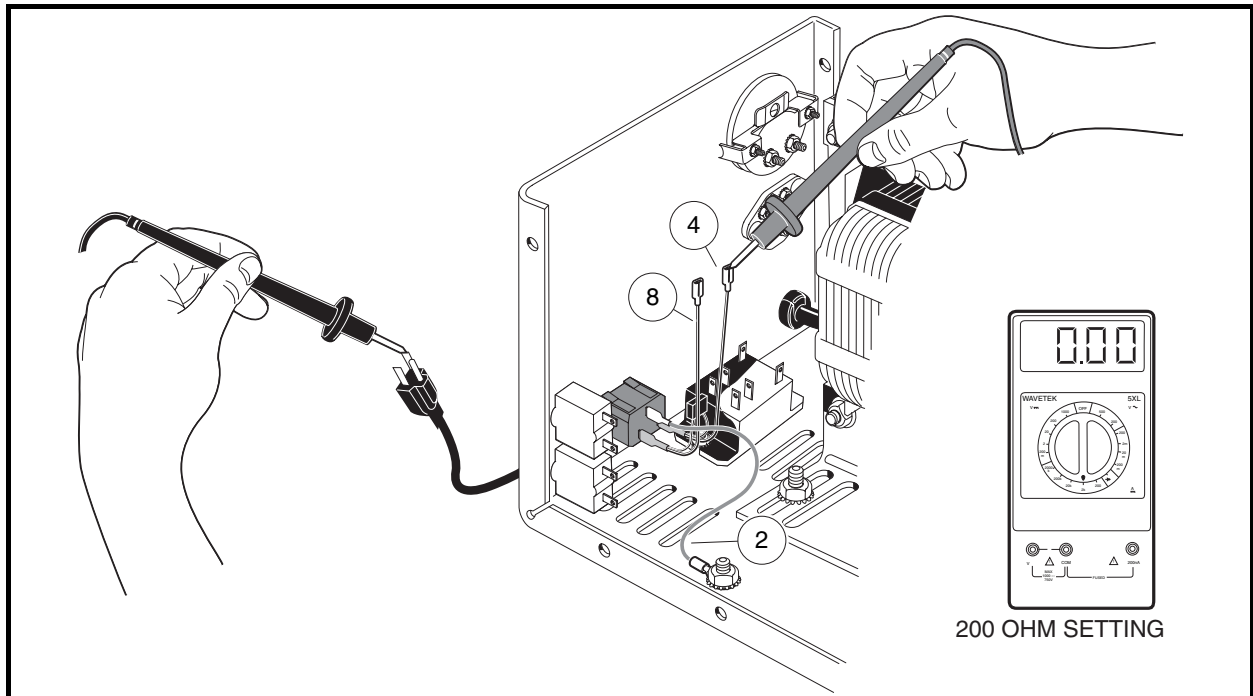

Figure 5-16 AC Plug and AC Charger Receptacle Continuity Test
3. Disconnect the green/yellow wire (2) from charger case and position it so it does not touch any metal part of the charger (**Figure 5-16, Page 5-23**).
6. Using a multimeter set for 200 ohms, place the red (+) probe on the terminal at the end of the black wire removed from relay terminal 4 (4). Test for continuity on each of the flat blades and on the round pin of the AC plug. The tester should indicate continuity on one flat blade only. If any other reading is obtained, the AC cord or AC charger receptacle (on the front panel) may be damaged. See AC Cord on page 5-22. See also AC Charger Receptacle on page 5-23.
7. Place the red (+) probe on the end of the green/yellow wire (2) and with the black probe check for continuity on both flat blades and on the ground pin of the AC plug. The tester should indicate continuity on only the ground pin. If any other reading is obtained, the AC cord or AC charger receptacle (on the front panel) may be damaged. See AC Cord on page 5-22. See also AC Charger Receptacle on page 5-23.